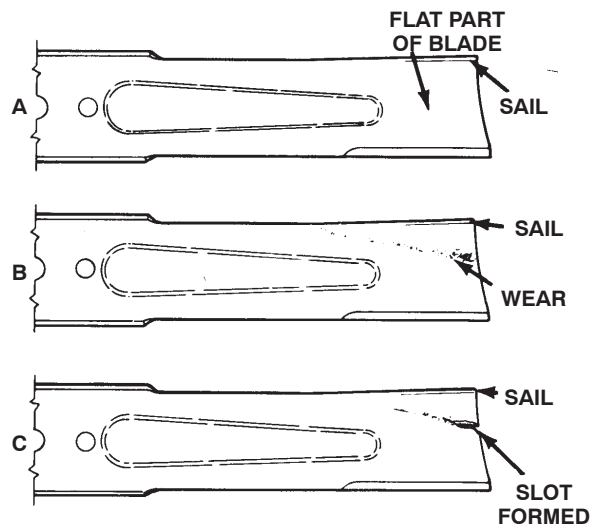

Figure 30
2. Examine the cutting ends of the blade carefully, especially where the flat and curved parts of the blade meet (Fig. 30-A). Since sand and abrasive material can wear away the metal that connects the flat and curved parts of the blade, check the blade before using the machine. If wear is noticed (Fig. 30-B), replace the blade; refer to Removing the Cutting Blade, page 21.
If the blade is allowed to wear, a slot will form between the sail and flat part of the blade (Fig. 30-C). Eventually, a piece of the blade may break off and be thrown from under the housing, possibly resulting in serious injury to yourself or bystanders.